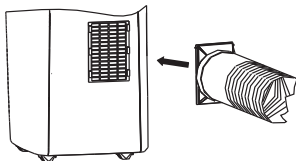

Fig. 9
- Keep the required distance from the return air outlet (refer to Fig. 9 on Page 13) to the wall or other obstacles at least 60 cm (23.6"). Fix one end of the air hose (A) on the air outlet underside the appliance. (§ how to install the Exhaust Hose and Adapter
- Air outlet (refer to Fig. 9 on Page 13) or intake (see below) can not be blocked by protective grid or any obstacle.